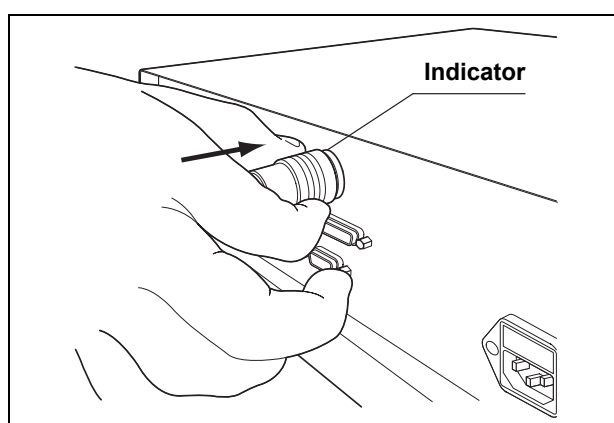

Figure 3.2
3. With the indicator on the plug facing upward, align the plug with the foot switch connector on the rear panel of the SonoSurg irrigation unit (see Figure 3.2).